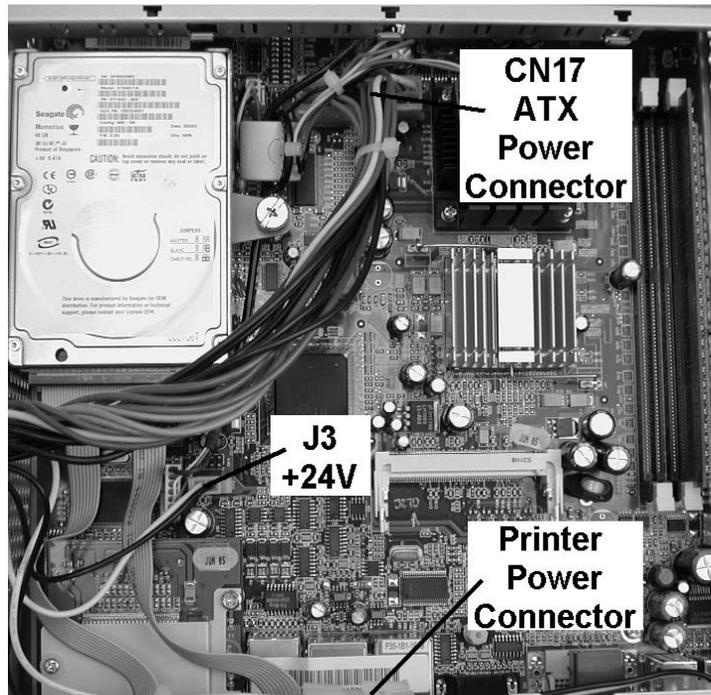

Figure 3-18: Removing the Power Supply Connectors
2. Refer to Figure 3-18 and remove the ATX Power connector from CN17, the 2-pin connector from J3, and the in-line printer power cable.